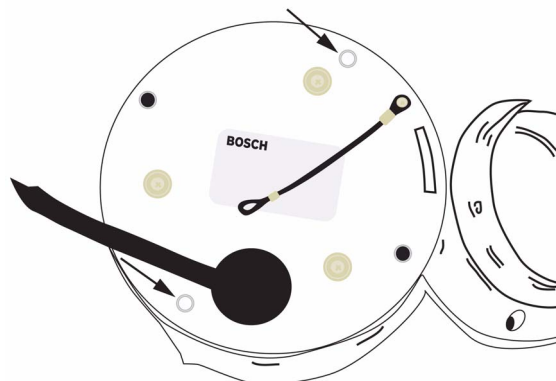

Fig. 8.4 Removing the Plugs from the Camera Base
1. Carefully loosen the bubble by using the torx wrench provided to remove the four (4) tamper-resistant screws. Allow the bubble to hang from the safety tether.
2. Remove the appropriate two (2) (see Figure 8.4) black rubber plugs from the camera base.